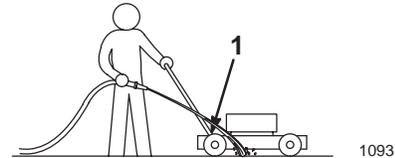

Figure 20
3. Hold the running water at handle level and direct the water to flow on the ground just in front of the **right rear tire** (Fig. 20).